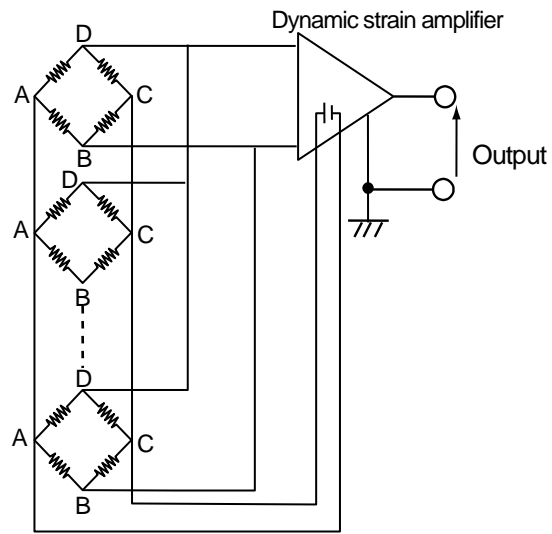

Fig. 4-15
(3) When calculating value of mean (Fig. 4-15)